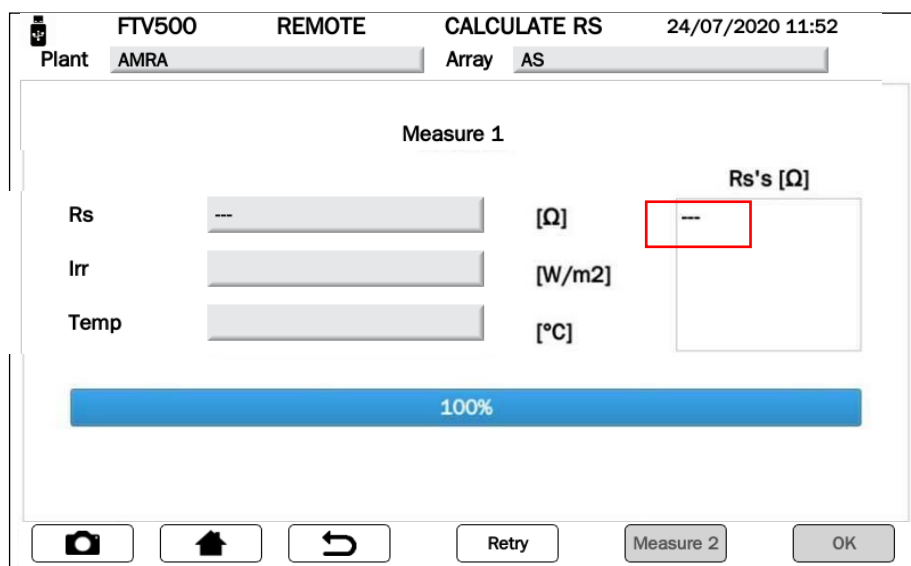

Figure 14.7.3-17 RS measurement "---"
- If the Rs measurement (see Figure 14.7.3-16) is not displayed, check: